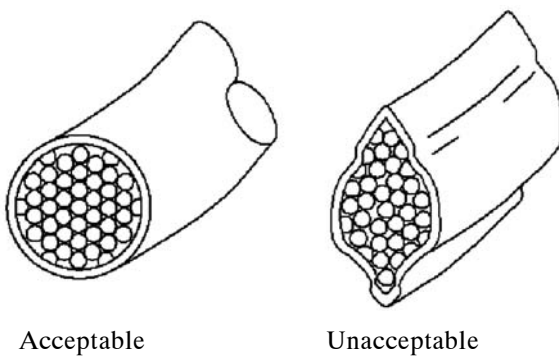

Figure 4. Acceptable/Unacceptable Conditions of Cut Wire Ends
(1) Using the shear-type cutter part number 45-123 (WP 009 00), cut the filter line to the necessary length. Ensure the end condition of the wire is acceptable (Figure 4.)
(2) Using the strippers identified in Table 1 strip individual wire, refer to WP 009 00 for proper stripping procedures and inspection criteria.